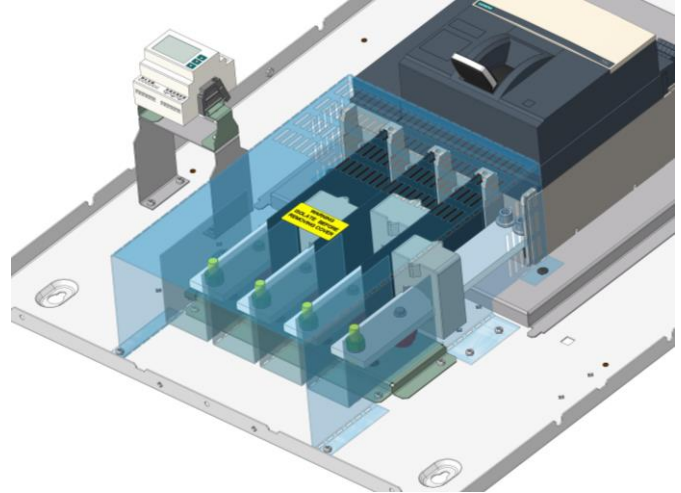

Fig. 4
- Assemble and install the shroud by using 6 off 6.5 mm screws and 2 off push rivets. Refer to Fig. 4 for details.